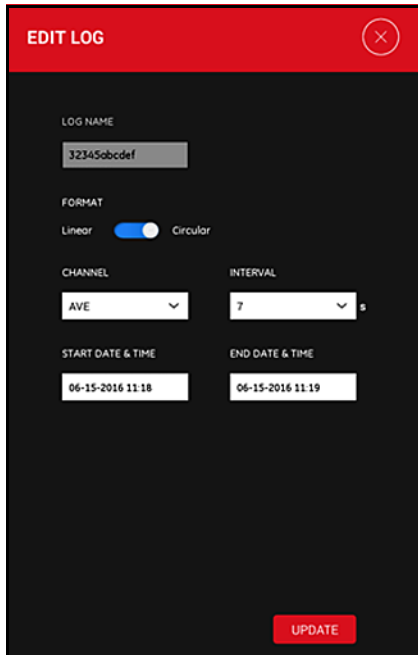

Figure 101: The EDIT LOG Menu
3. Click the **EDIT** button to open the EDIT LOG menu shown in *Figure 101* below.